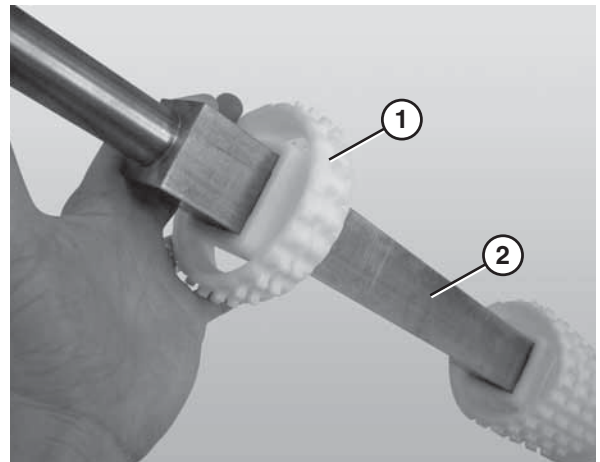

Figure 83
1. Slide the sprockets (**Figure 83, item 1**) onto the drive spindle (**Figure 83, item 2**).